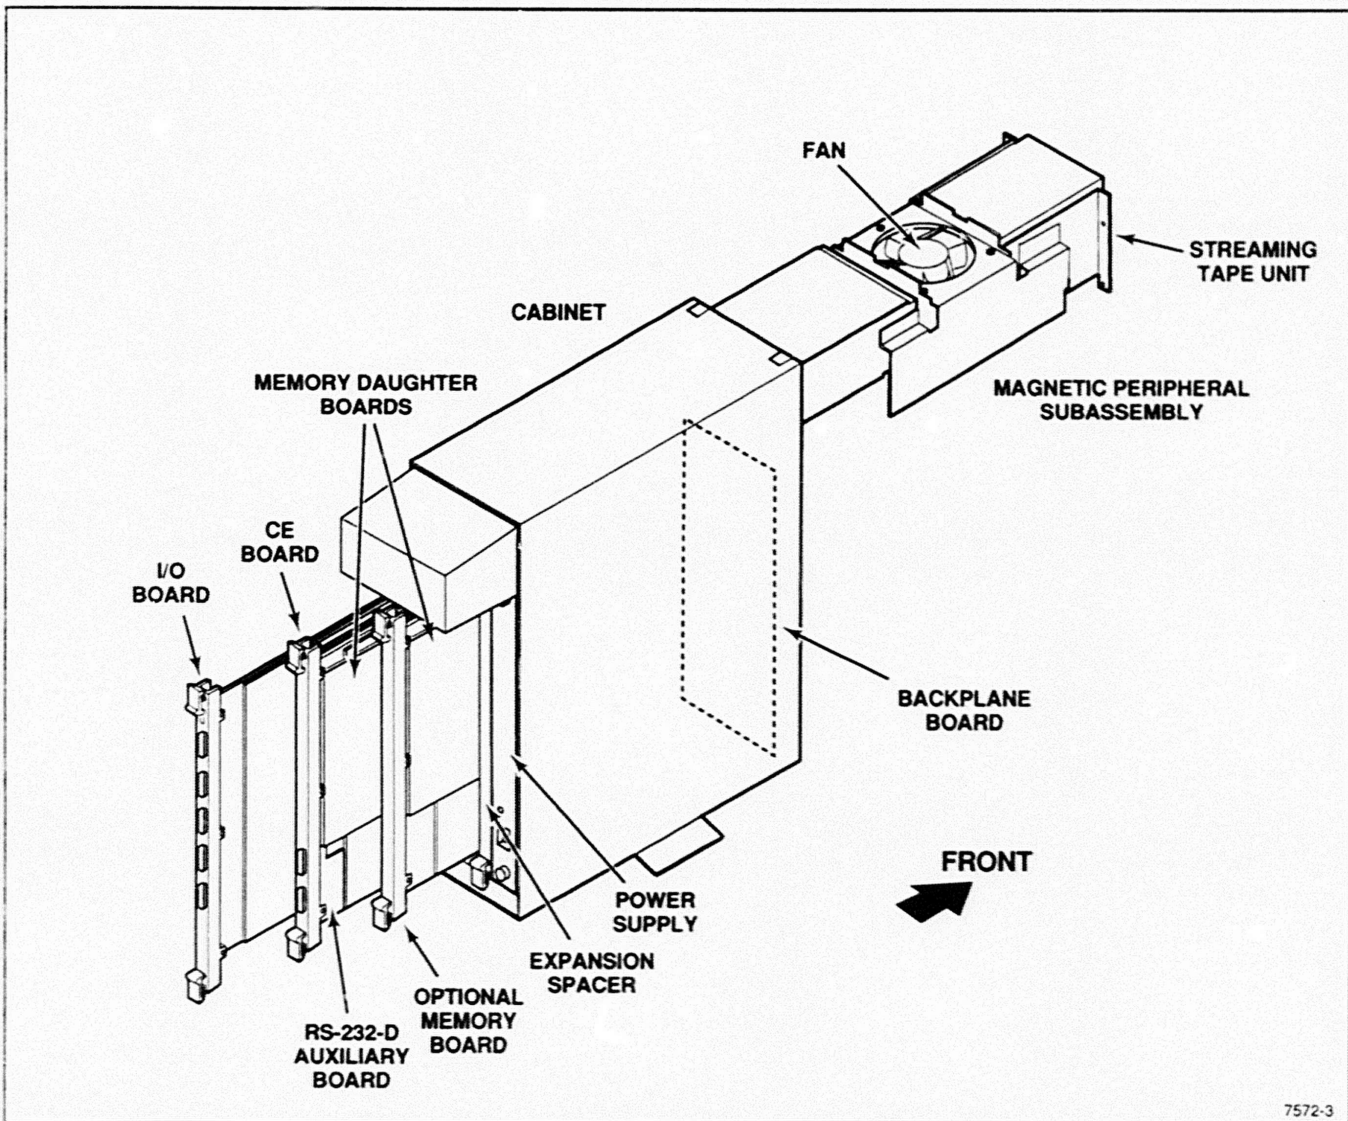

Figure 5-1. CEM FRUs.
The CEM contains these FRUs (see Figure 5-1):
* Not shown in Figure 5-1.